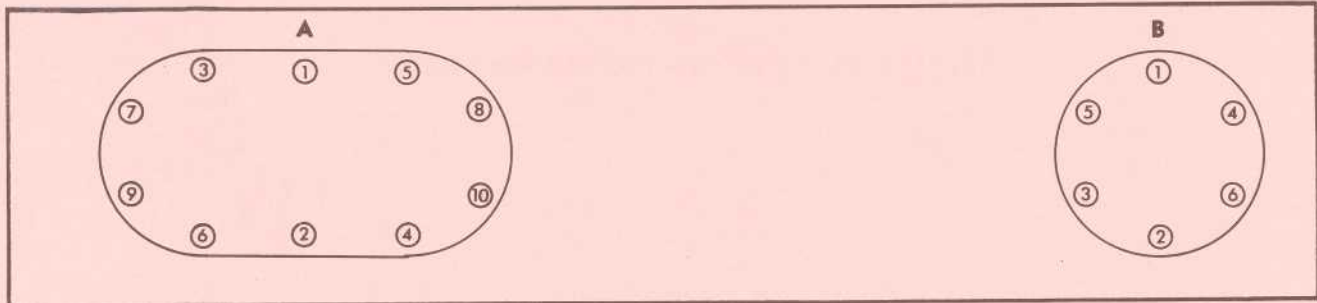

FIGURE 3. BASIC TORQUE PATTERN
6. Repeat pattern bringing all bolts up to full torque value. If no torque pattern is specified, start at centerline of gasket and torque bolts as shown in Figure 3, following numbered sequence.